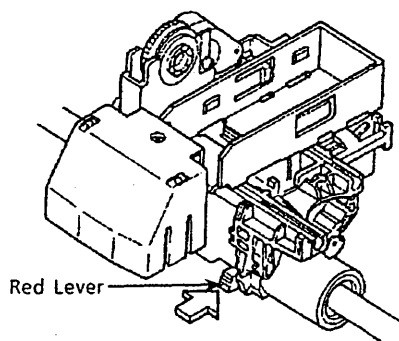
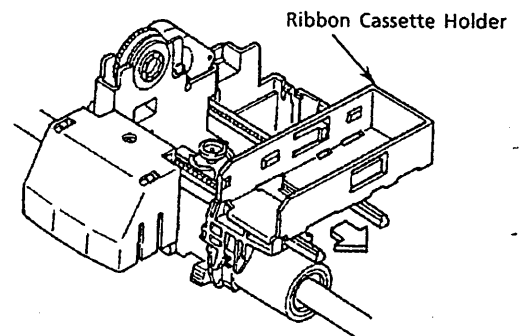

Figure 6.1.10 Carriage
Figure 6.1.11
- 2) Pressing the red lever on the carriage (Figure 6.1.10) will move the ribbon cassette holder to the right (See Figure 6.1.11).